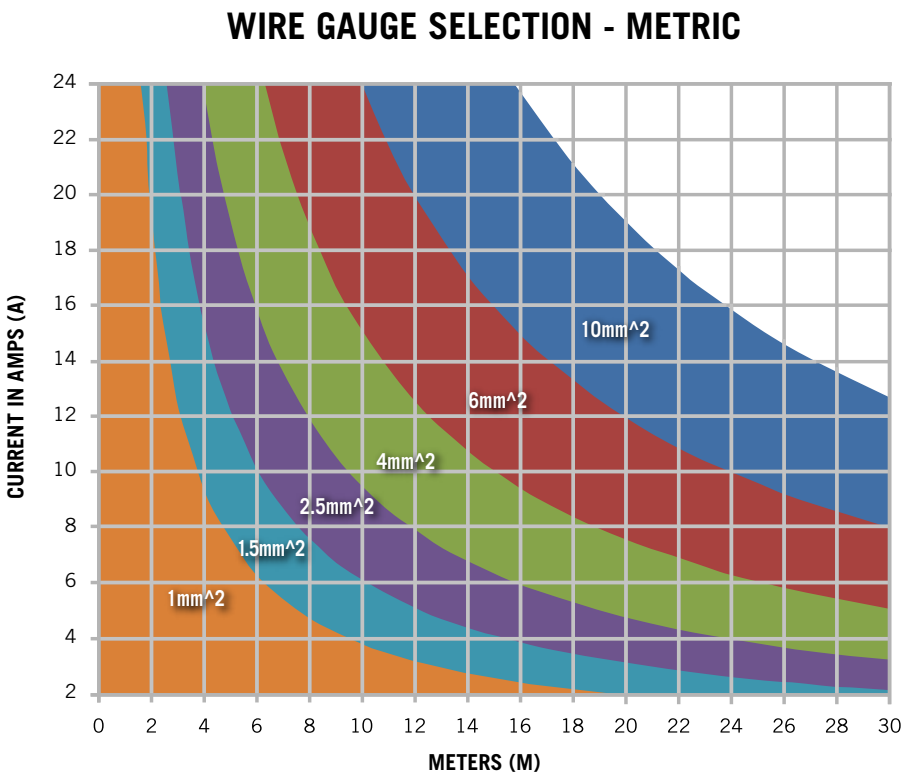

FIG. 7 DC POWER HOOKUP: DC-DC POWER SUPPLY (791911-1)
- FIG. 7 DC POWER HOOKUP: DC-DC POWER SUPPLY (791911-1)**